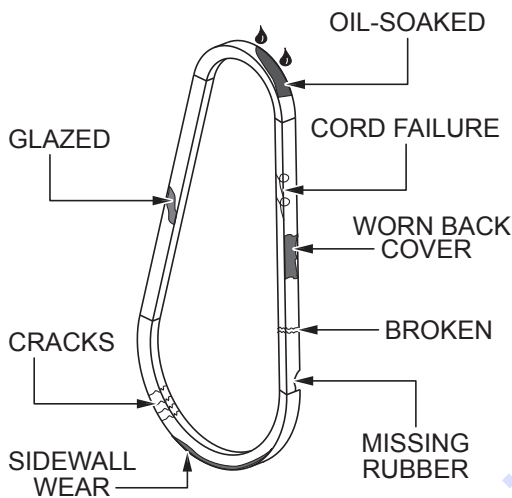

Figure 58. V-Belt Inspection
- Inspect the V-belt (Figure 58) to determine if it is frayed, peeling, full of tiny cracks, has pieces of rubber missing, or is otherwise damaged.
- Inspect the V-belt (Figure 58) to determine if it is oil-soaked or glazed (a hard, shiny appearance on the sides of the belt). Either of these conditions can cause overheating of the belt, which can weaken the belt and increase the possibility of it breaking.